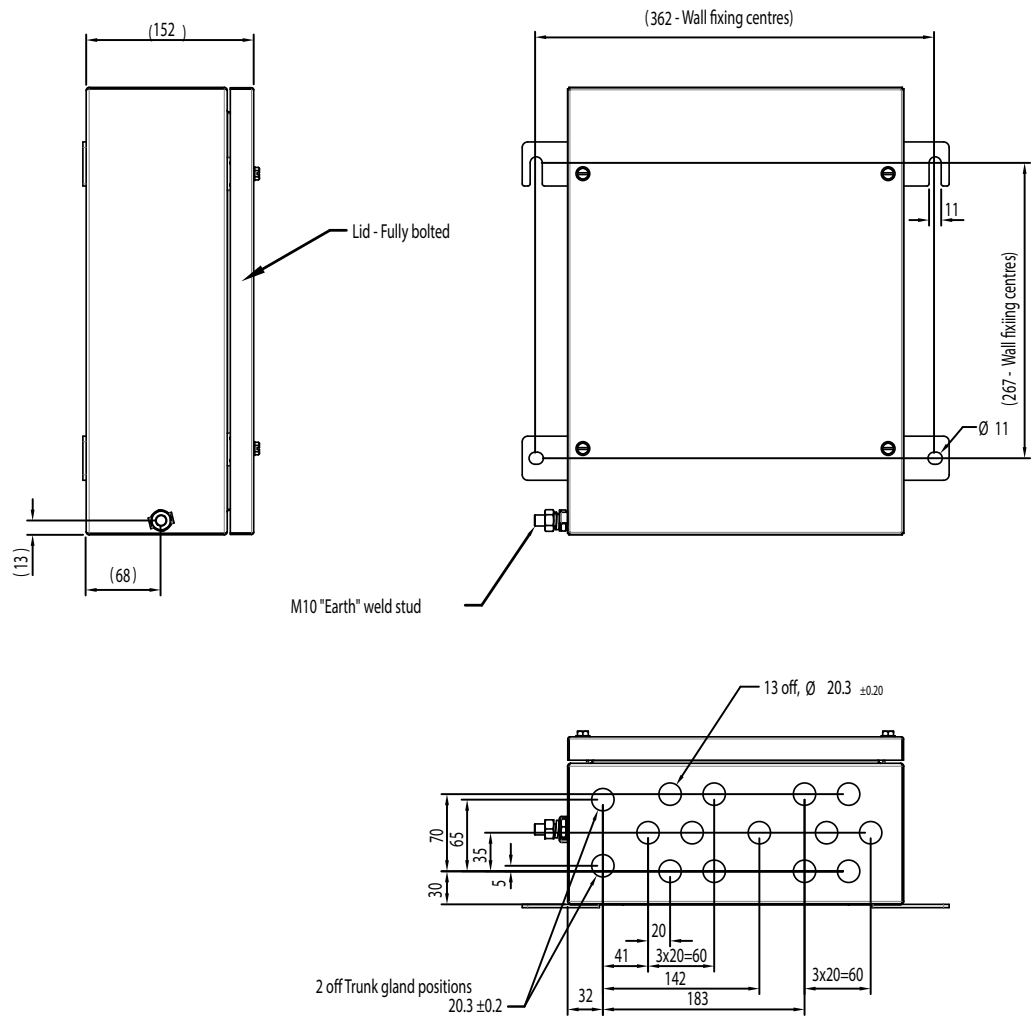

Figure 4.1 – Fieldbus Barrier Standard Small enclosure dimensions
See Figure 4.1 and 4.2 below for the dimensions, fixing locations and cable gland positions of the two main enclosure options.
- a) The enclosure is designed for mounting on a vertical surface, with the cable entry at the lowest point, as shown in the upper part of Figures 4.1. and 4.2. The permitted ambient temperature range in this orientation (–20°C to +60°C), external to the enclosure, must not be exceeded. Avoid radiant heat by locating the enclosure away from direct sunlight or local sources of heat.
- e) Wherever a blanking plug is replaced by a cable gland, the gland fitted must be Ex e certified and have an ingress protection (IP) rating that maintains the overall rating of the enclosure.
- d) Prepare holes in the mounting surface, on the centres shown in Figure 4.1 or 4.2 to accept suitable screws/bolts for mounting.
The enclosure can be used as a template. With help from at least one other person, hold it in the position required and mark the surface through the top slotted lugs only (see Figure 4.1 or 4.2). Open up these hole positions to a suitable size and depth.
The enclosure is provided with two access holes for trunk glands in the lower left floor area of the enclosure – see Figure 4.1 or 4.2; one is for the incoming trunk and another, if necessary, for onward linking to a second enclosure.